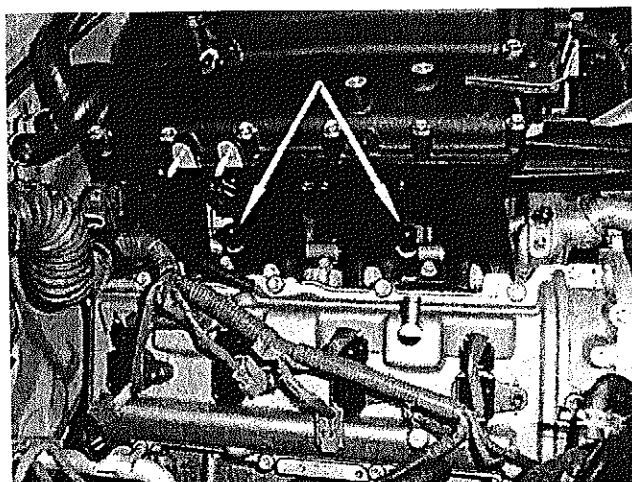

Figure 23
5. Install the factory passenger's-side fuel delivery pipe spacers (Figure 23).